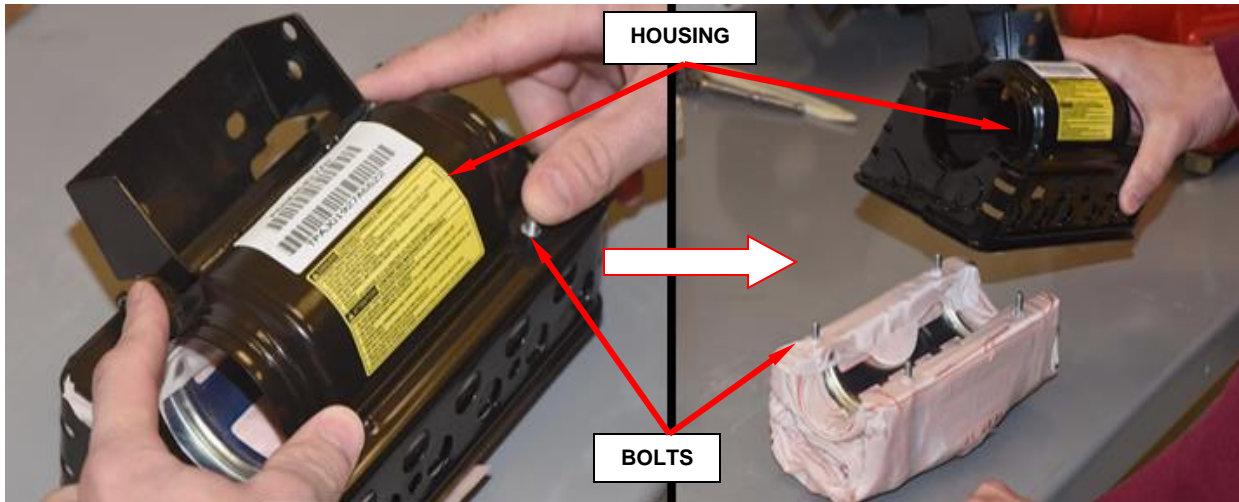

Figure 81 - Remove Airbag Cushion from Housing
- e. Remove airbag cushion from housing by applying pressure to the bolts, set cushion aside (Figure 81).